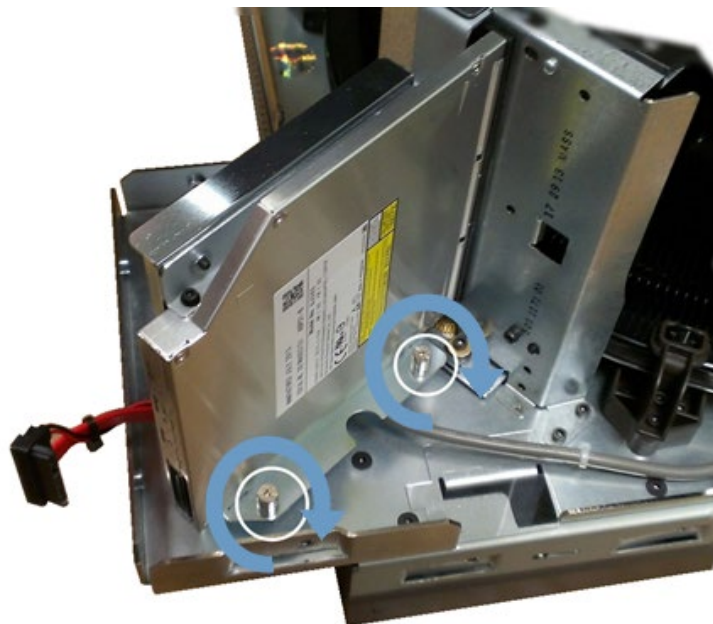

Figure 17
3. Using the Philips screwdriver, loosely fasten the 2 self-retaining screws on the bottom mounting plate. See Figure 17.
- 1) Base Philips screws x 2. See Figure 17.